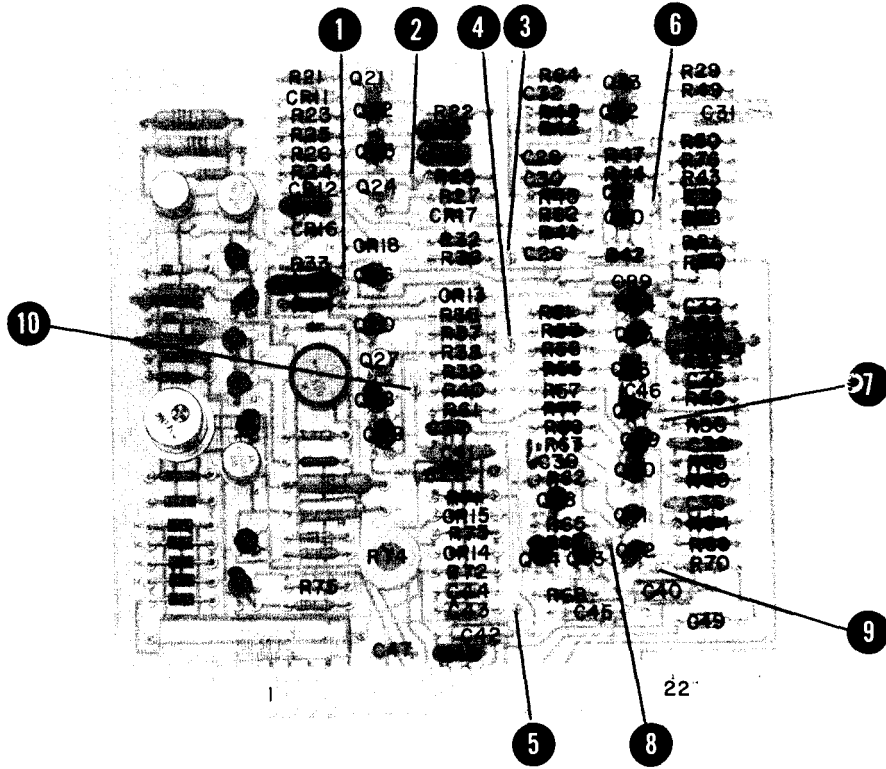

Figure A1-1. A2 Meter Logic Component Locations
- CHANGE 4** Figure A1-1, A1-2, A1-3 and Table A1-1 and A1-2 apply to 432A Power Meters with serial prefix 843 and below.